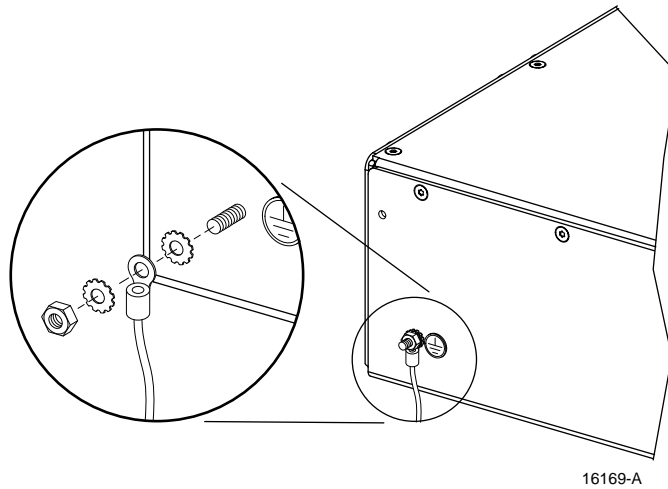

Figure 8. Chassis Ground Stud
3. Locate the chassis ground stud at the rear of the RIU as shown in Figure 8.
4. Attach the ring end of the wire to the chassis ground stud (see Figure 8).